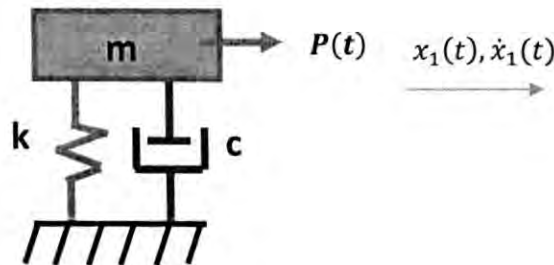

Figure 2
2. (a) A post-tensioned concrete rectangular beam 400 mm by 500 mm has a simple span of 15 m and it is prestressed with 1152 mm^2 steel which is made up of 6 tendons. The tendons are tensioned one after another to the stress of 1200 MPa. If $E_{ci} = 48500 \text{ MPa}$ and $E_s = 290000 \text{ MPa}$, Compute the loss of prestress due to the elastic shortening of concrete. (5)
- (b) A prestressed-concrete rectangular beam 350 mm×500 mm as shown in **Figure: 2** has a simple span of 10 m and is loaded by a uniform load of 35 kN/m excluding its own weight. The prestressing tendon is located as shown in the **Figure: 2** and it produces an effective prestress of 1050 kN. Using the internal resisting couple method find out the fiber stresses at the midspan section. (10)
- [2] Solve the equation of motion for the external force $P(t) = 3t^2 + 4t - 5$ for the system presented in Figure 2. Estimate the displacement, velocity and acceleration numerically by using the **Newmark-Beta Method** for the following time steps $t = 0, 0.1, 0.2$?